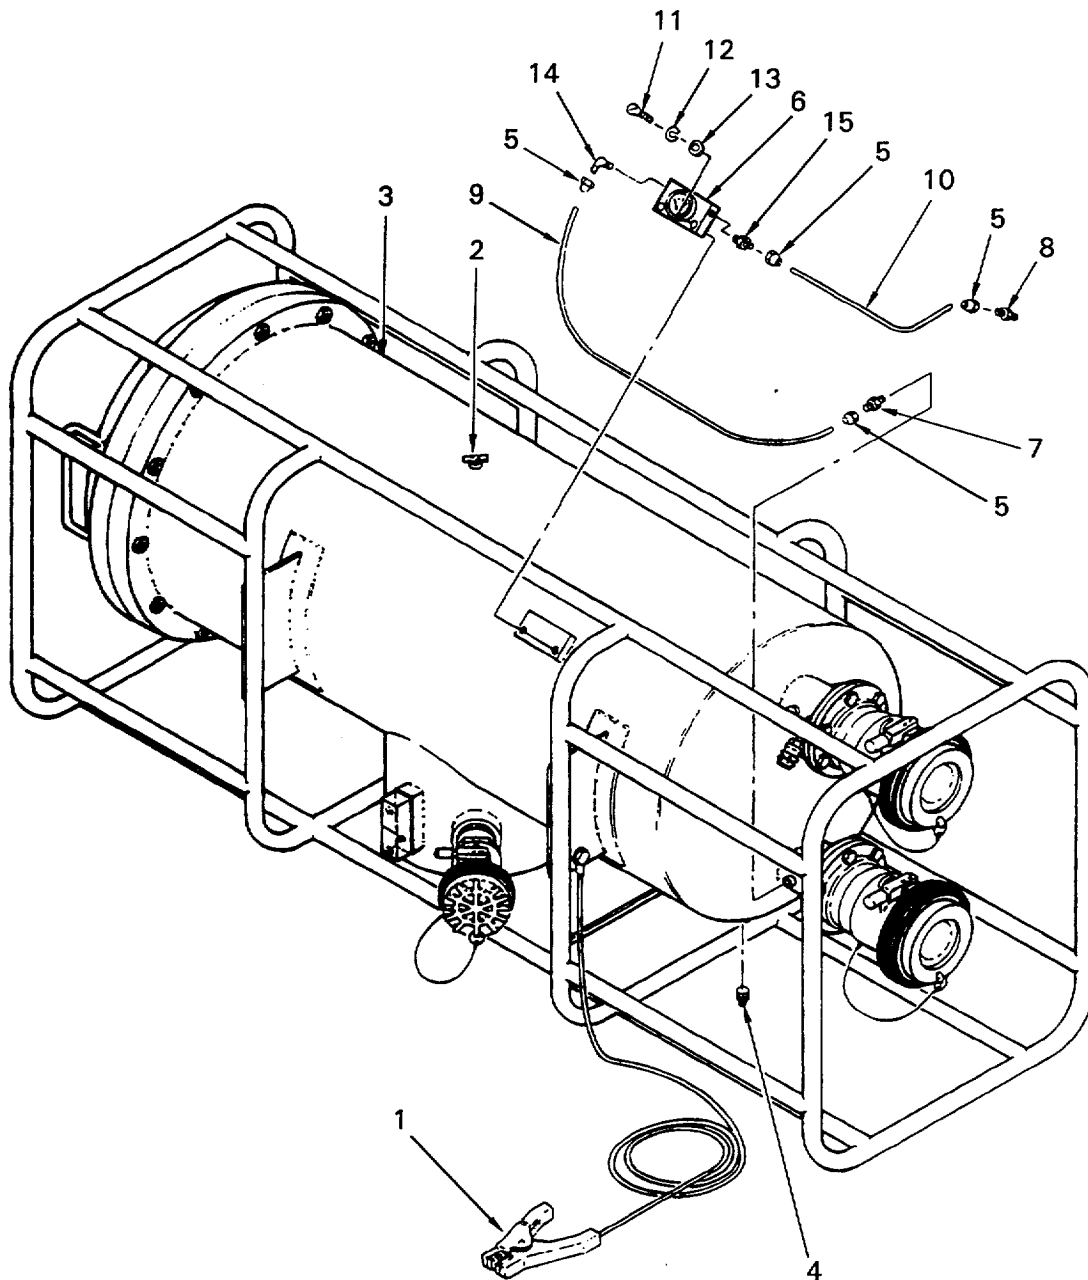

Figure 4-12. Pressure Gauge and Inlet/Outlet Line Removal
a. Removal of Inlet and Outlet Lines. (Figure 4-12)
- (1) Connect the liquid fuel filter-separator grounding cable (1) to a ground rod.
- (2) Depress and latch open the manual vent valve (2) to relieve any pressure from the filter vessel (3).
- (3) Drain fuel from diverter cavity into a suitable container by removing filter vessel gravity drain plug (4).
- (4) Dispose of fuel in accordance with the local SOP.
- (5) Loosen and separate flare nuts (5) on both sides of the differential pressure gauge (6) and on the inlet and outlet port connectors (7, 8) of the filter vessel (3).
- (6) Blow through the lines to ensure they are clear.
b. Installation of Inlet and Outlet Lines. (Figure 4-12.)
- (1) Clean threads of the flare nuts (5), differential pressure gauge (6) and the inlet and outlet ports (7,8).
- (2) Position the inlet line (9) and/or outlet line (10) and loosely attach flare nuts (5).
- (3) Tighten flare nuts (5) on each side of the differential pressure gauge (6) and on the inlet and outlet port connectors (7,8).
- (4) Close the manual vent valve (2).
- (5) Install filter vessel gravity drain plug (4).
- (6) Place grounding cable (1) in storage location.
c. Removal of Differential Pressure Gauge. (Figure 4-12.)
- (2) Depress and latch open the manual vent valve (2) to relieve any pressure from filter vessel (3).
- (3) Loosen and separate flare nuts (5) on differential pressure gauge (6) inlet and outlet lines (9,10).
- (4) Loosen and remove the two screws (11), lock washers (12) and flat washers (13) that secure differential pressure gauge (6) to filter vessel (3). Discard the lock washers (12).
- (5) Remove the threaded flared tube elbow (14) from the inlet side of the differential pressure gauge (6). Retain elbow for use on differential pressure gauge (6).
- (6) Remove the threaded flared tube connector (15) from the outlet side of the differential pressure gauge. Retain connector for use on differential pressure gauge (6).
d. Installation of Differential Pressure Gauge. (Figure 4-12)
- (1) Clean the threads on the elbow (14) and connector (15) retained from the removal procedure.
- (2) Apply a light, even coat of thread sealant to the elbow (14) and connector (15) threads and install on the differential pressure gauge (6).
- (3) Position differential pressure gauge (6) on mount, and loosely install the two screws (11), lock washers (12) and flat washers (13) that secure the differential pressure gauge (6) to filter vessel (3).
- (4) Clean threads on inlet and outlet line (9,10) fittings (5), apply a light, even coat of thread sealant and install the inlet and outlet lines (9,10) finger tight to the differential pressure gauge (6).
- (5) Install the two screws (11) that secure the differential pressure gauge (6) to the filter vessel (3).
- (6) Tighten the inlet and outlet fittings (5).
- (7) Close the manual vent valve (2).
- (8) Place grounding cable (1) in stowage location.